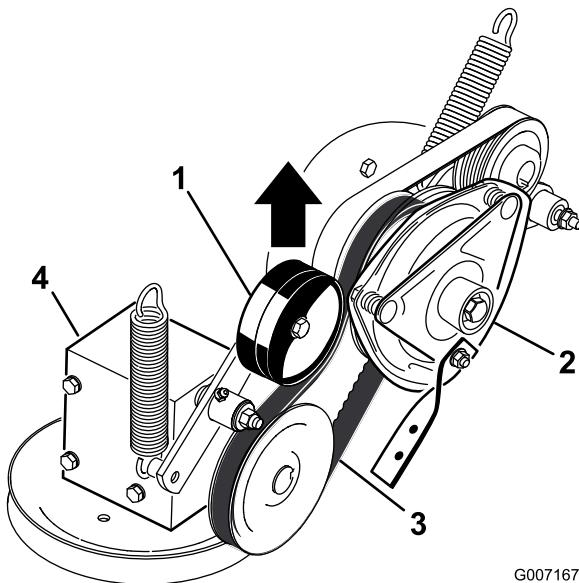

Figure 61
- Pull up on the spring loaded idler pulley for the PTO drive belt and remove the belt from the clutch pulley (Figure 61).
- Pull up on the spring loaded idler for the PTO drive belt and install it onto the clutch pulley (Figure 61).